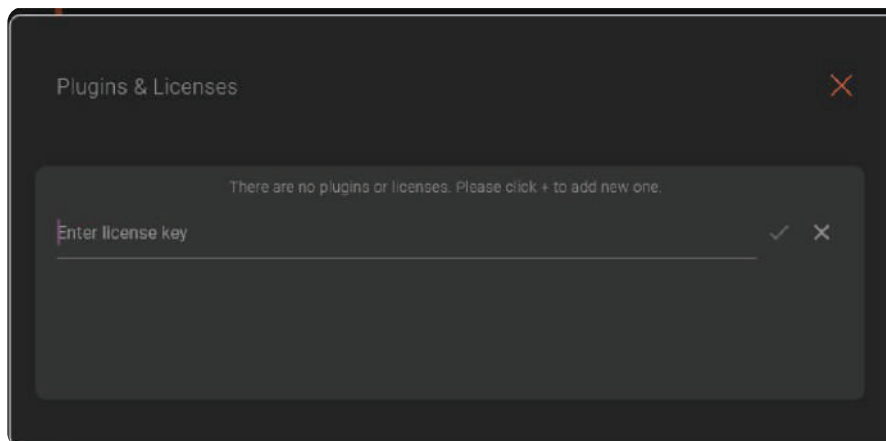
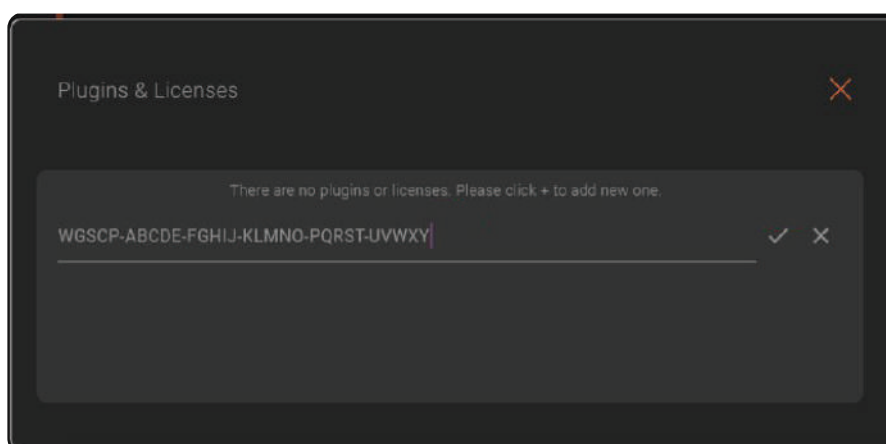

Figure 14
Figure 15
5. In the field "Enter license key" (Fig.14), paste or put the license key and click  for accept (Fig.15)